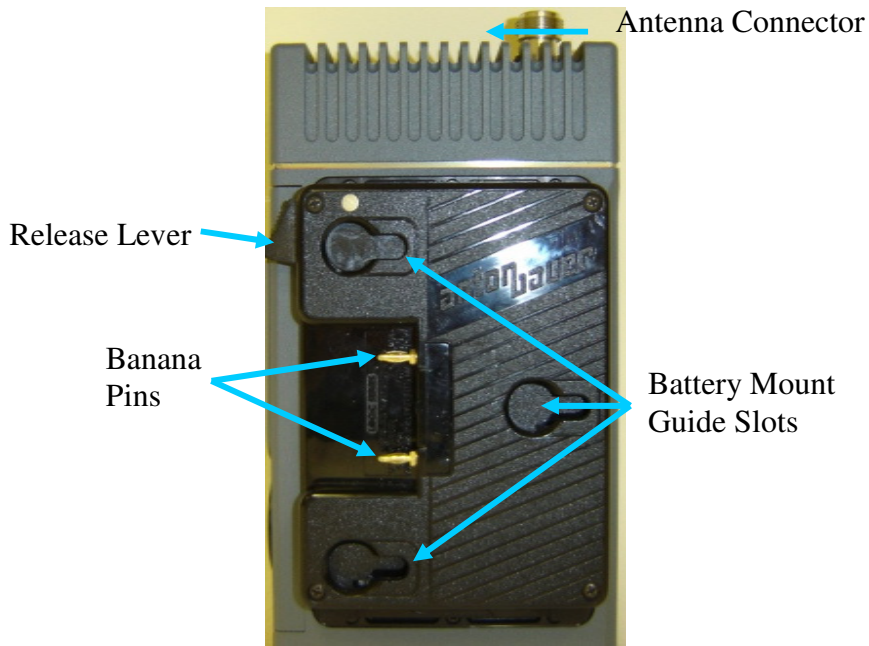

Figure 3: Battery Guide Slots
6. Slide the battery onto the CamPac2 until you hear the thumb-lock catch. Ensure that there is no play between the battery and the CamPac2, (See Figure 3).